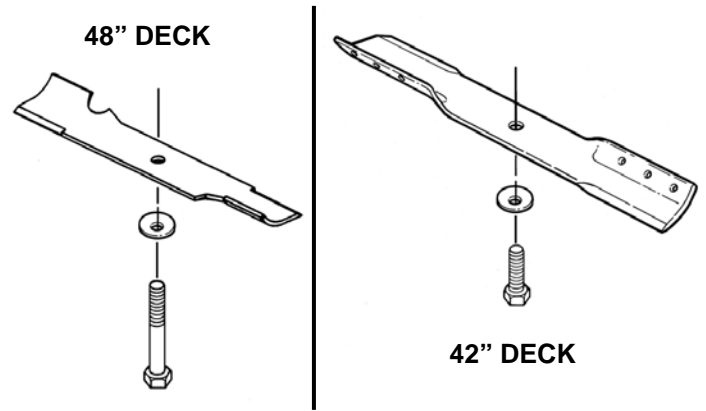

FIGURE 4.12
6. Remove blade(s). See Figure 4.12.
10. Reinstall blade. See Figure 4.12. Torque blade mounting bolts to recommended range of:
1. Remove blade(s). See Figure 4.12. Replace blade(s) if it shows signs of excessive wear or damage.